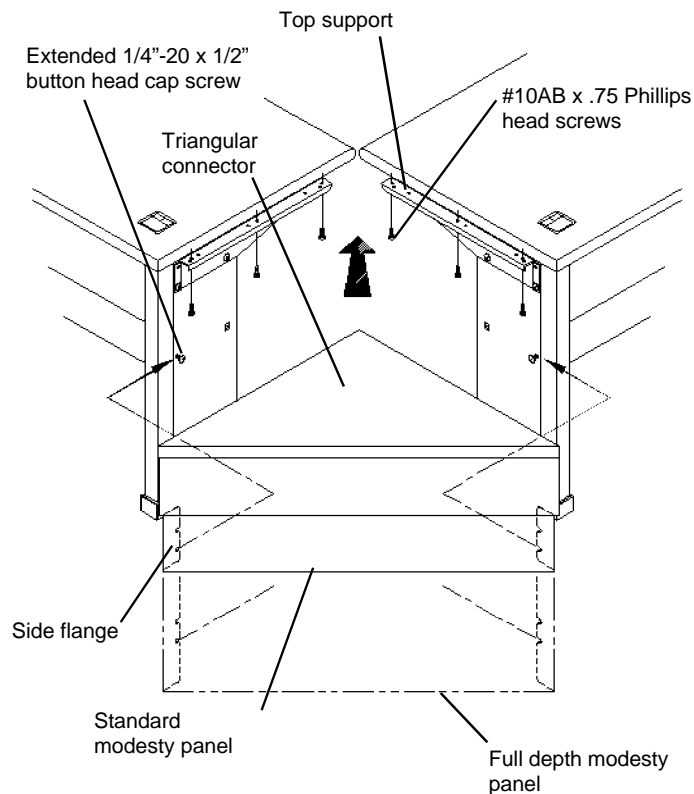

Figure 3
5. Engage the side flanges on the Modesty Panel with the extended 1/4"-20 x 1/2" button head screws in the lower rear section of each leg. **Do not** tighten at this time. See **Figure 3**.
6. Fasten the Triangular Connector to each Top Support using three #10AB x .75 Phillips head screws on each side. With a second person holding the workstations and Connector in place, tighten all of the screws. See **Figure 3**.